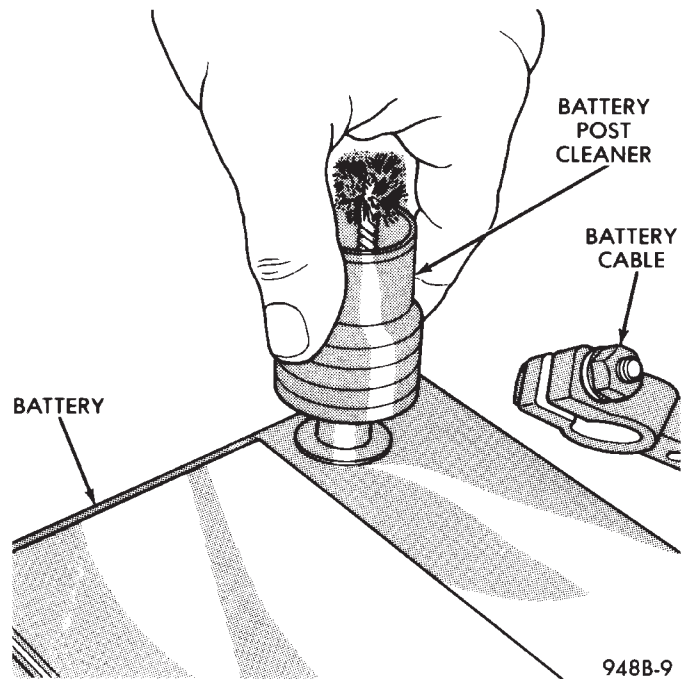

Fig. 5 Cleaning Battery Posts
- (7) Clean battery posts with a suitable battery post cleaning tool (Fig. 5).